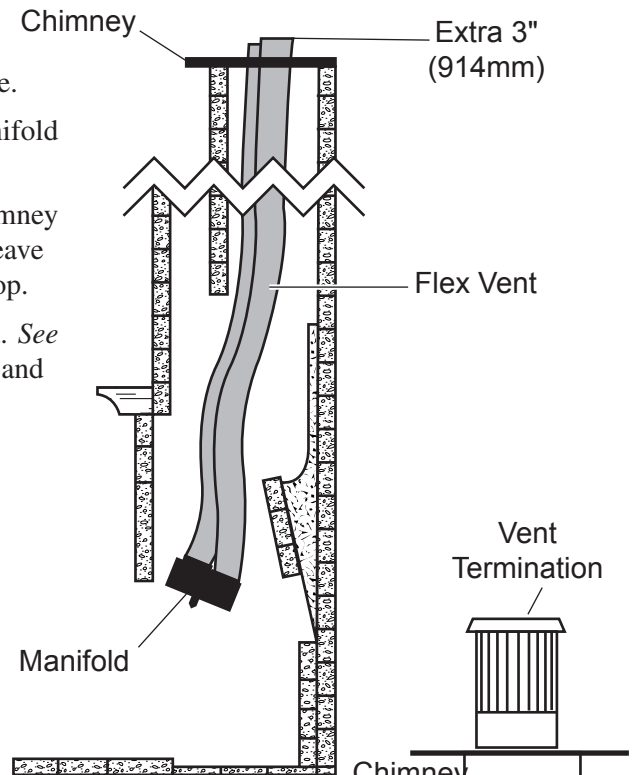

Figure 9 - Attaching Flex Vent to Manifold
4. Attach flex vent to manifold. See Figure 9. Seal with silicone and attach with screws.